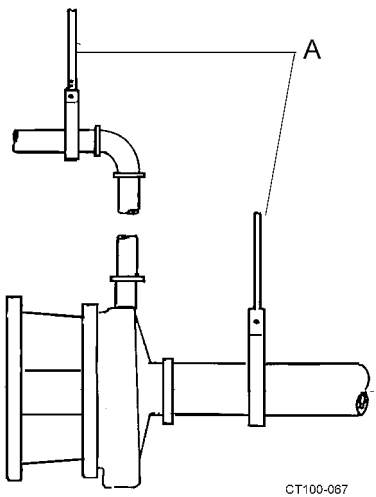

**Figure 13 - Recommended Discharge Positions**
- The pump casing may be rotated with the discharge connection pointing in any direction. The best pump performance will be with the outlet up, to the left, or positions in between; these positions ensure a flooded casing and prevent problems caused by air in the system (Figure 13).
- Check the pump rotation following the electrical installation. The correct rotation is counterclockwise when facing the pump inlet connection (Figure 13 and Figure 17); clockwise when viewing the fan on the motor.